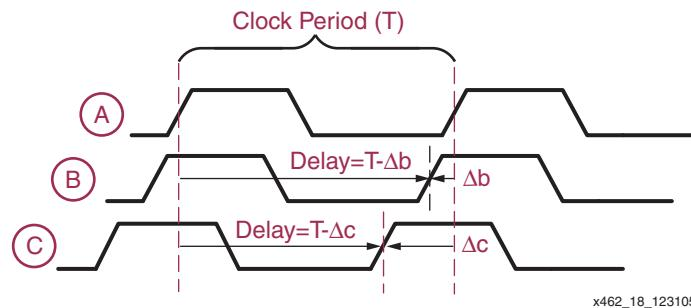

Figure 3-18: Delaying a Fixed Frequency Clock Appears to Predict the Future
Because it is impossible to insert a negative delay to counteract the clock skew, the DCM actually *delays* the output clocks enough so that they appear to be advanced in time. How is this accomplished? The clock cycle is repetitive and has a fixed period, T. As shown in Figure 3-18, the clock at Point (B) appears to be advanced in time by the delay Δb . In reality however, the clock is delayed by $(T - \Delta b)$. Similarly, the clock at Point (C) is delayed by $(T - \Delta c)$.